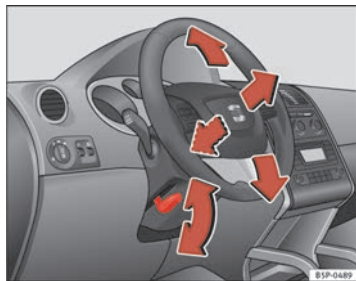

Fig. 136 Adjusting the steering wheel position
- Push the lever under the steering column \Rightarrow fig. 136 down \Rightarrow .